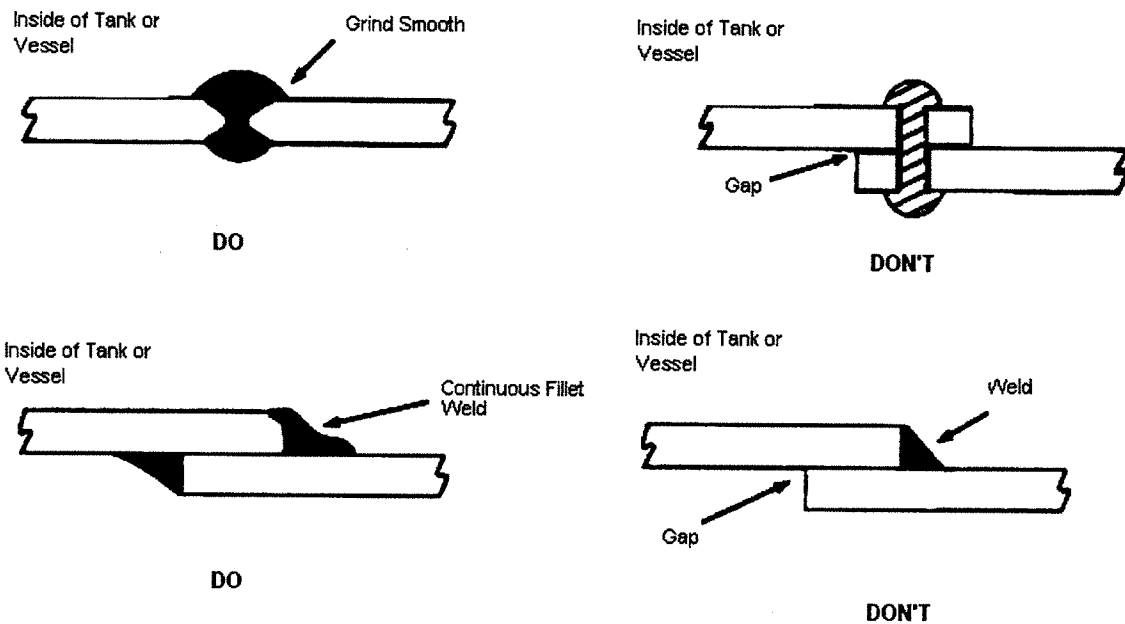

FIGURE A5
3.2.1 Continuous butt-welded joints shall be used whenever possible (see Figure A5, Appendix A).